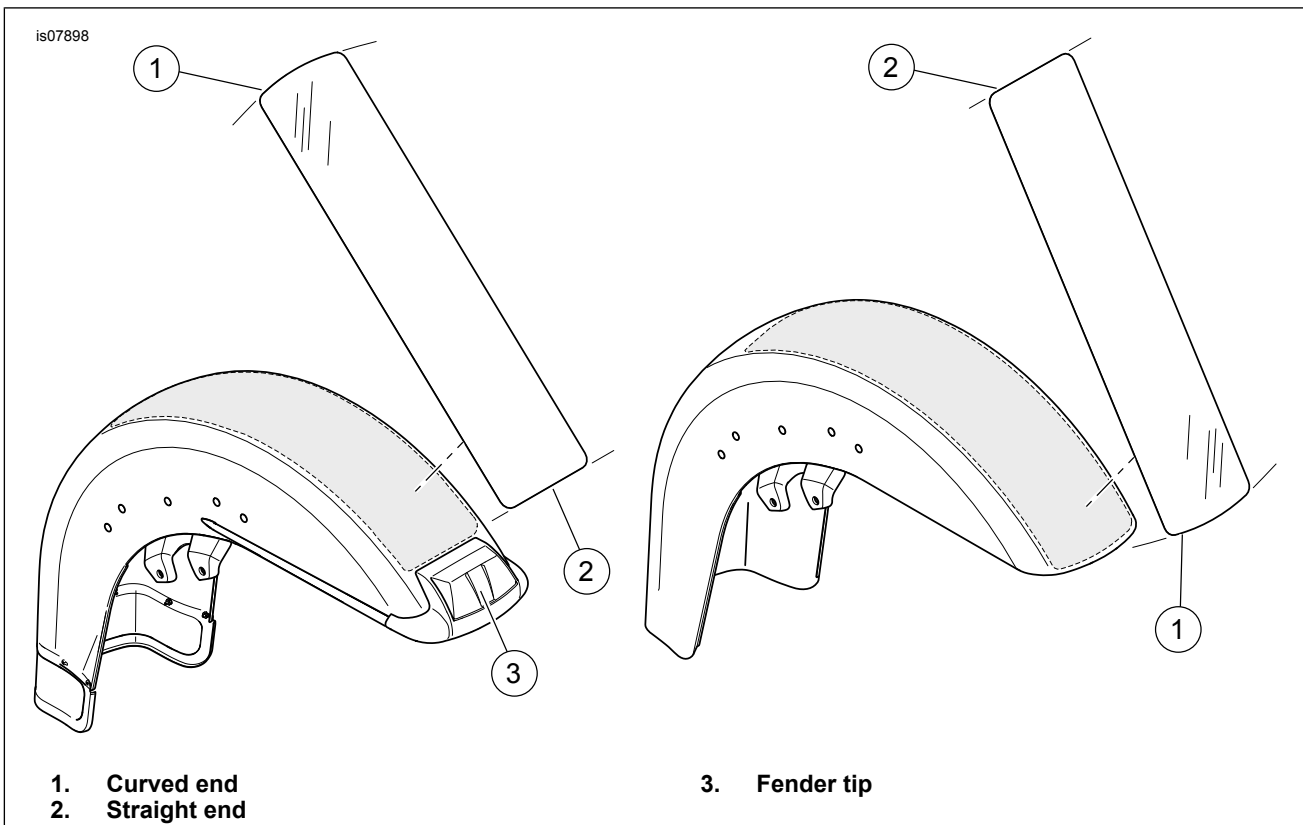

Figure 1. Tape Orientation
See Figure 1 and Table 1.
- See Figure 1. On fenders with fender tip (3), straight end (2) of tape faces tip. On fenders without a fender tip, curved end (1) of tape faces front of fender.
2. See Figure 1. Align the paint guard with the front edge of the fender or fender tip.